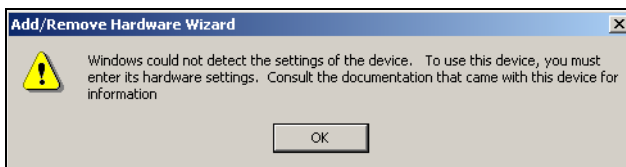

Figure 7-26 An Add Remove Hardware dialog box, click OK.
25. A dialog box appears. Click **OK** (Figure 7-26).